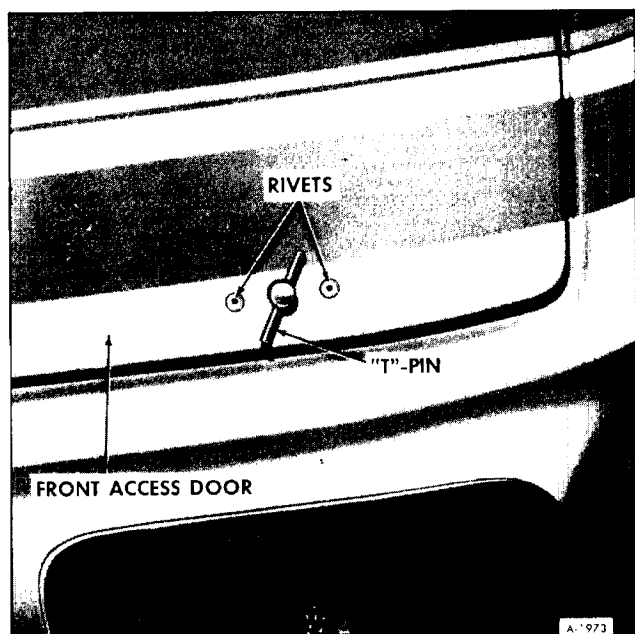

Figure 23-Front Access Door Latch
1. Drill out rivets (2) on each side of handle. See Figure 23.
2. Remove "T" pin. See Figure 23.